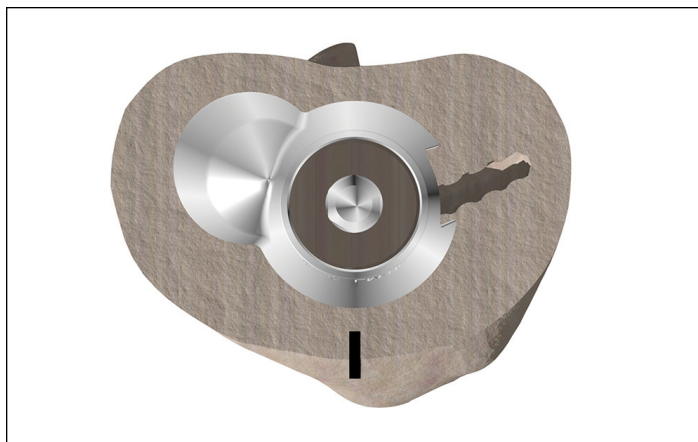

Figure 49
- **Note:** Invert the Cone Trial over the resected tibial bone and ensure that the trial is centered on the IM Reamer (**Figure 49**). Centering the trial helps to ensure proper positioning.